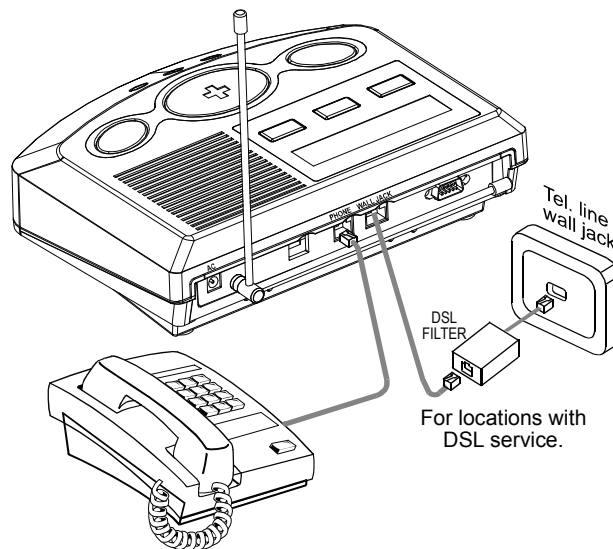

Figure 4 – Connecting Telephone Line to Base Unit
### Connect the Base Unit to your Telephone Line (Figure 4)\*
**Note:** Be aware of other phone line services such as DSL. If DSL service is present on the phone line, you must install a filter. See Figure 4 for proper installation.